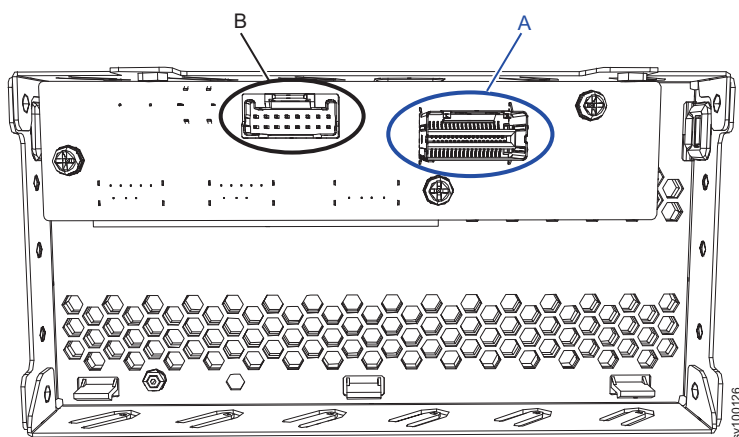

Figure 264. Cable connectors on the back of the operator-information panel
3. Gently remove each cable from the connectors on the rear of the operator-information panel (**A** and **B**), as shown in Figure 264 on page 316.